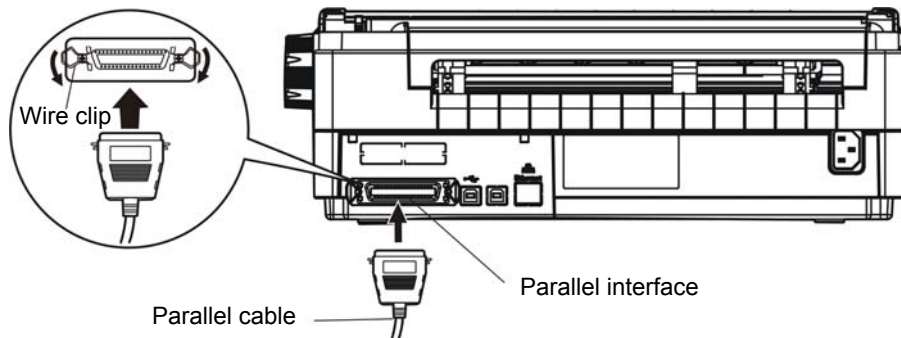

Figure 1-13 Connect to the parallel interface
1. Turn off both the computer and the printer. Plug the parallel cable connector securely into the printer's parallel interface. Squeeze the wire clips together until they lock in place on either side of the connector. (Shown as figure 1-13)